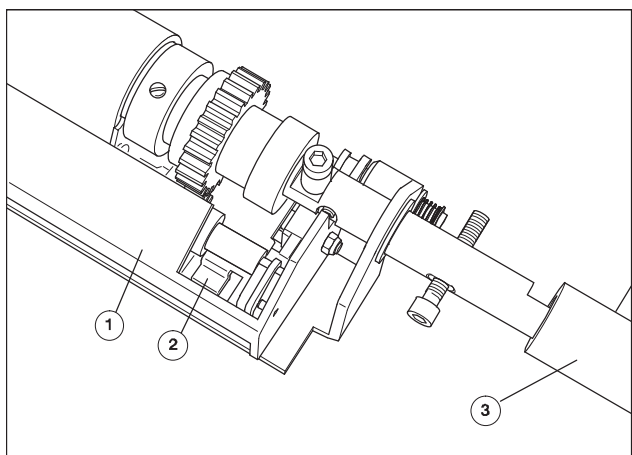

Fig. 62 Filling with washing fluid
1. Fill the washing fluid in the washing fluid trough (Fig. 62/1) until the connecting link (Fig. 62/2) is just covered by the washing fluid.
2. Cautiously insert the washup device in the press and lock with the handle (Fig. 62/3).